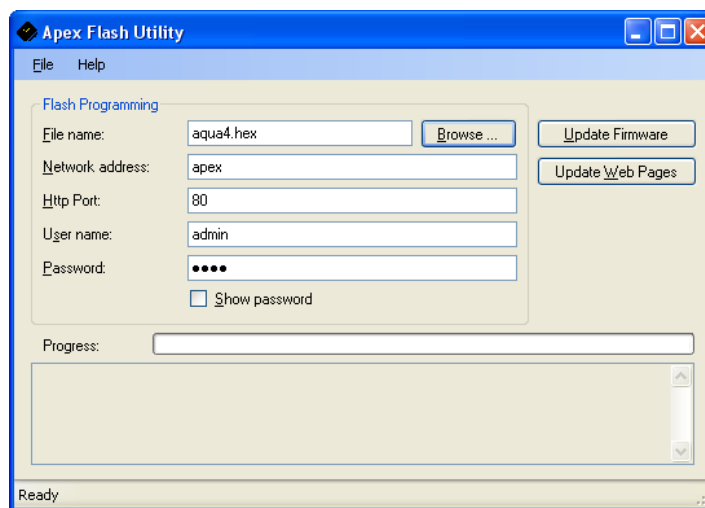

Figure 13 - The Apex Flash Utility
2. Double-click **Apex Flash Utility.exe** the Apex Flash Utility should open as shown in *Figure 13 - The Apex Flash Utility*.